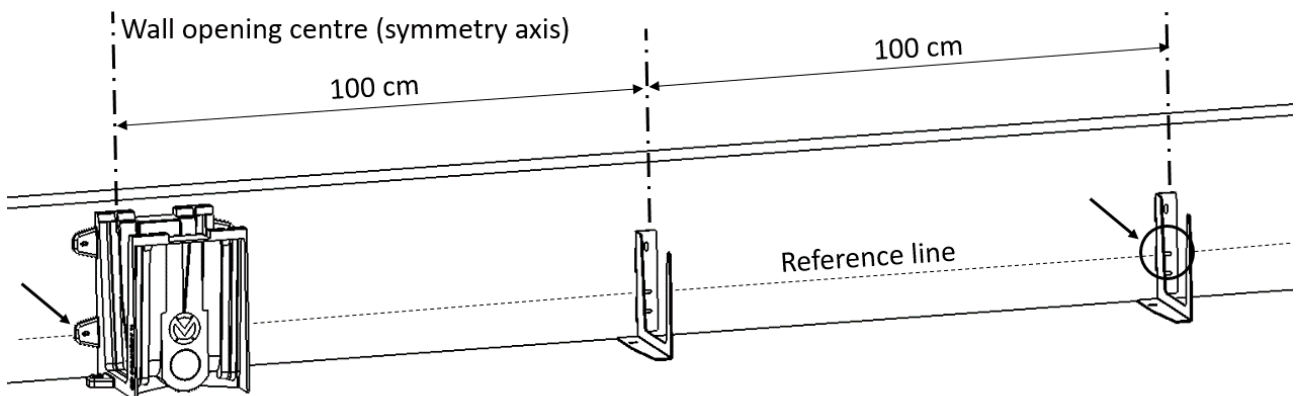

Figure 6
Continue by fixing (2 pcs) Metal Middle Brackets [ref. 3] to the wall as indicated below. See Figure 6.
NOTE Make sure that the lower holes of the Supply Unit Connection Bracket are aligned with the middle hole of the Metal Middle Brackets [ref. 3]. See Figure 6.